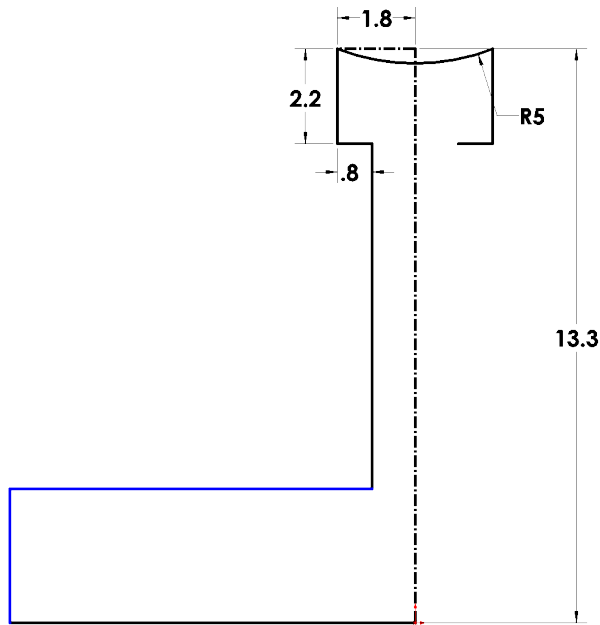
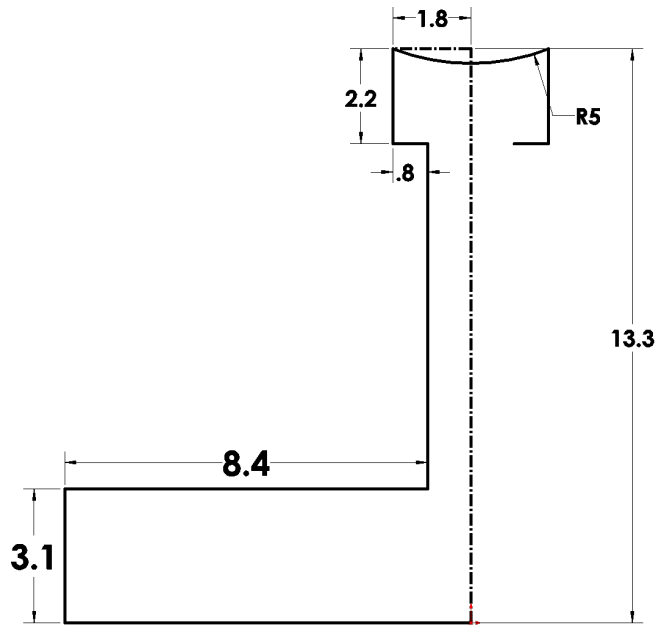

Fig. 9
Fig. 10
Step 1. Click **Line**  (L) on the Sketch toolbar.
Step 2. Sketch the **three lines**, Fig. 9.
Step 3. Click **Smart Dimension**  (S) on the Sketch toolbar.
Step 4. Add dimensions, **Fig. 10**.